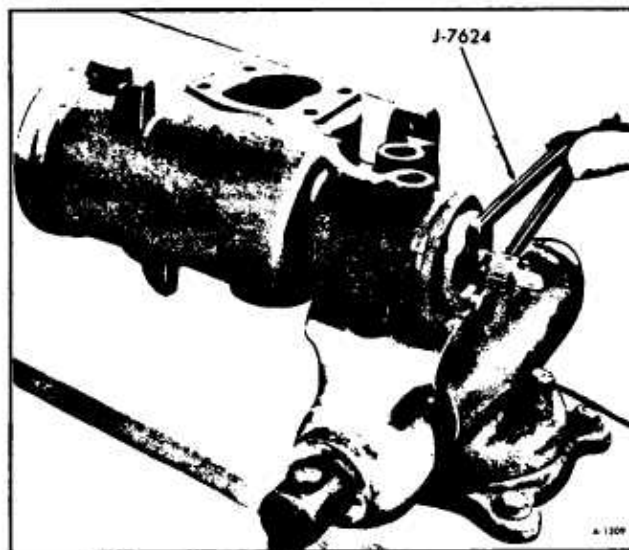

Figure 27—Removing Adjuster Plug
b. Remove adjuster plug assembly with Spanner Wrench J-7624 (figure 27). Remove and discard the adjuster plug "O" ring.